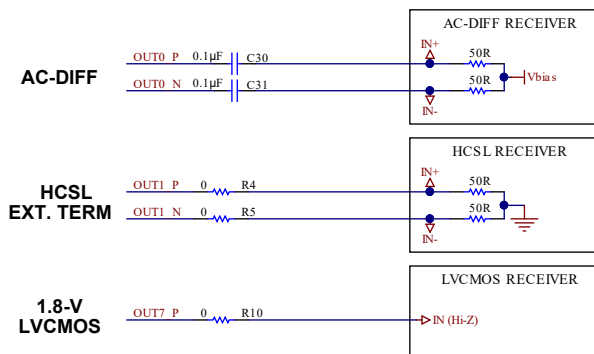

图 10-4. LMK5B12204 Reference Schematic Example
- For a 3.3-V LVCMOS driver, follow the OSC clock interface example in 图 10-4. Power the OSC from a low-noise LDO regulator or optimize its power filtering to avoid supply noise-induced jitter on the XO clock.
- **Reference inputs:** Follow the LVCMOS or differential clock input interface examples in 图 10-4 or in 节 9.3.3.
- **Clock output Interfacing:** Follow the single-ended or differential clock output interface examples in 图 10-4 or in 节 9.3.14.
- Power all the VDD pins with proper supply decoupling and bypassing connect as shown in 图 10-4.